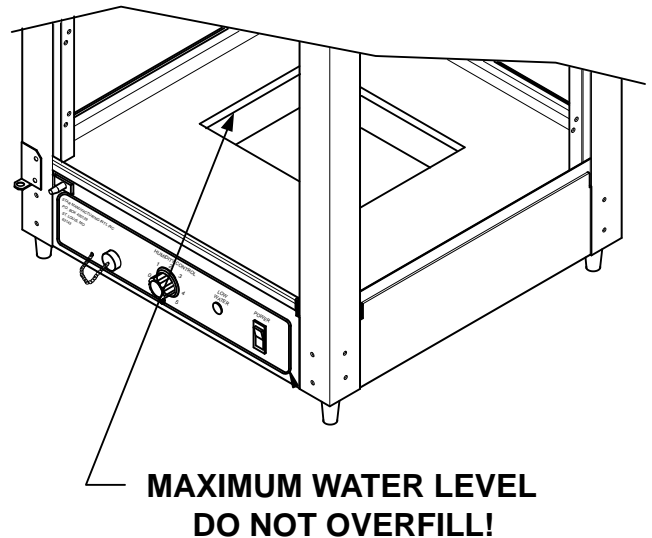

Figure 4
6. Periodically monitor the water level by the red indicator light on the lower control panel. If the light is illuminated, add water (distilled preferred) until the indicator light is no longer illuminated or to the maximum recommended water level (see Figure 4).
4. Unscrew the drain cap to drain the water reservoir. After the water reservoir is empty, recap the drain tube and fill to the recommended water level (see Figure 4).